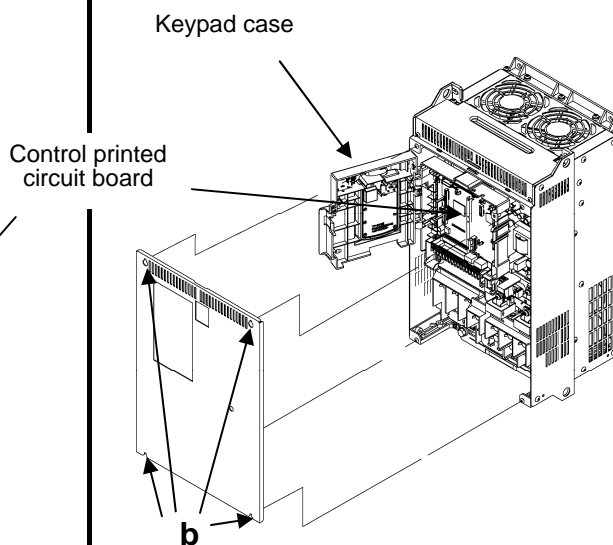

Figure 2.1-2 Removing the Front Cover
- (1) As shown in Figure 2.1-2, remove the mounting screws on the front cover at location (b) (the number of screws varies with the inverter's capacity) and remove the front cover.
- (2) Open the keypad case.